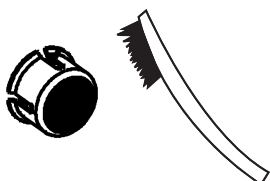

Figure 17: Clean spark arrestor with wire brush
5. If screen is not torn then clean using a wire brush, commercial solvent, or compressed air. Remove any dirt and debris that may have collected on the spark arrestor screen (see Figure 17).